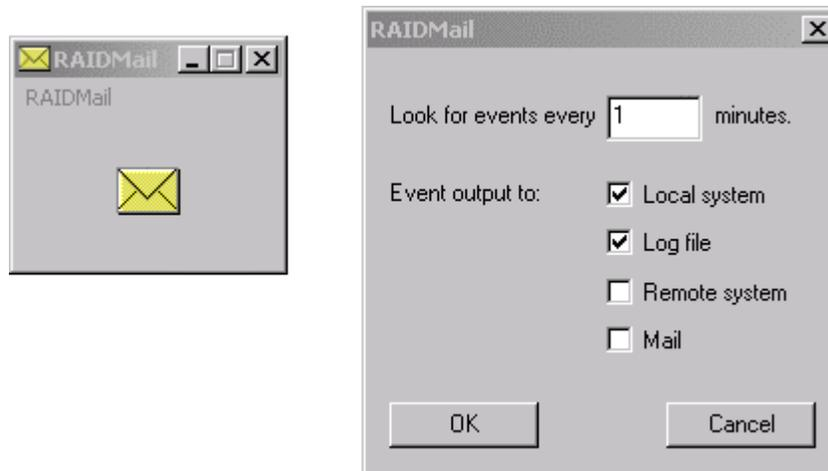

Figure 107. RAID Mail
2. In the RAIDMail box (left box in Figure 107) select RAIDMail / Settings.
3. Configure the RAID Mail Utility (right box in Figure 107).